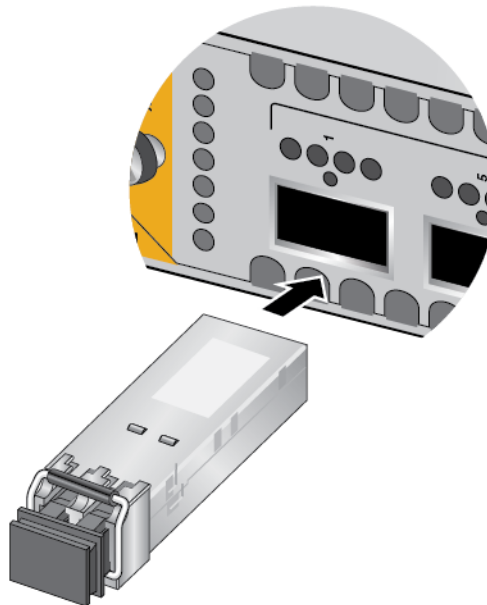

Figure 117. Installing 40Gbps Fiber Optic Transceivers in XEM2-4QS Line Cards
- ❑ 40Gbps transceivers in XEM2-4QS Line Cards - refer to Figure 117.